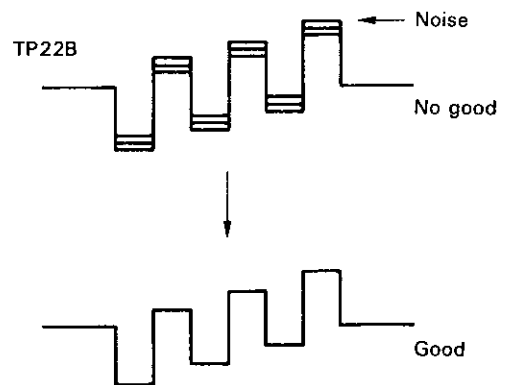

Fig. 69
- ① Before performing this adjustment, adjust VR120, VR107 and VR108.
- ② Move the "CHROMA" control on the front panel, off preset. Turn clockwise until the index dot or knob points to 30'clock. FILTER switch is at NOTCH position.
- ③ Turn VR114V (B-Y Level) fully clockwise.
- ④ Connect the oscilloscope probe to TP22B.
- ⑤ Rotate "HUE" control clockwise off preset.
- ⑥ While maintaining the waveform shown in Figure 69, turn VR110 and the "HUE" control simultaneously. Set VR110 at the position where the noise level shown in the diagram is minimized.